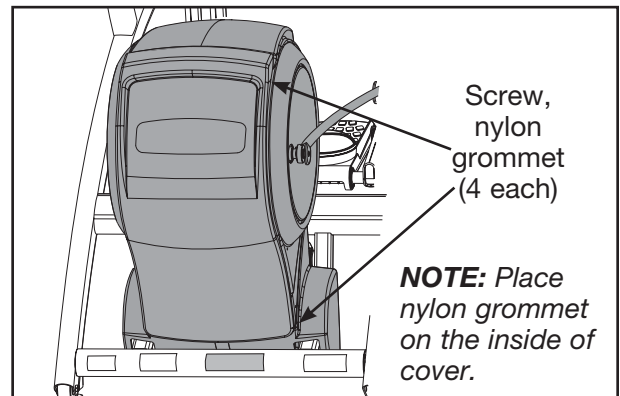

Figure 2
- B. Remove the two upper screws securing the access cover. See Figure 2
- B. Tighten the four screws, using a Phillips screwdriver. **NOTE:** Do not over tighten screws. See Figure 2.